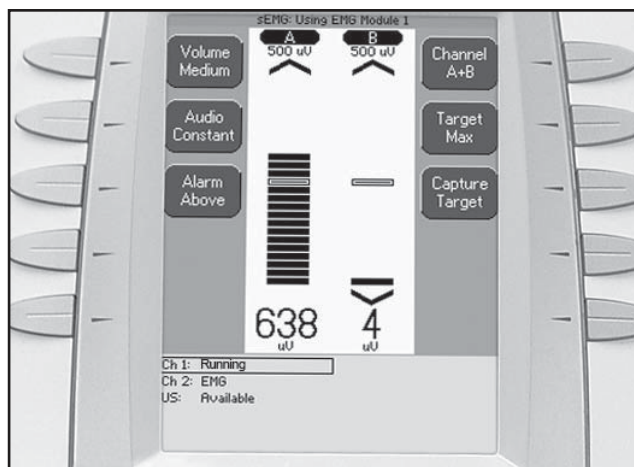

FIGURE 5.35
9. View the System sEMG Screen. Channel 1 should read between 604 and 738. **See Figure 5.35.**